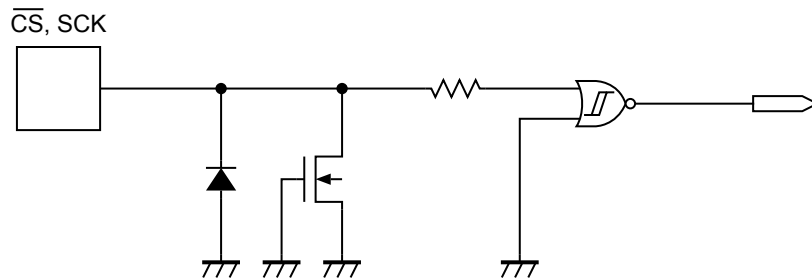

Figure 20  $\overline{CS}$ , SCK Pin
**Figure 20** and **21** show the equivalent circuits of input pins in the S-25C256A. A pull-up and pull-down elements are not included in each input pin, pay attention not to set it in the floating state when you design.